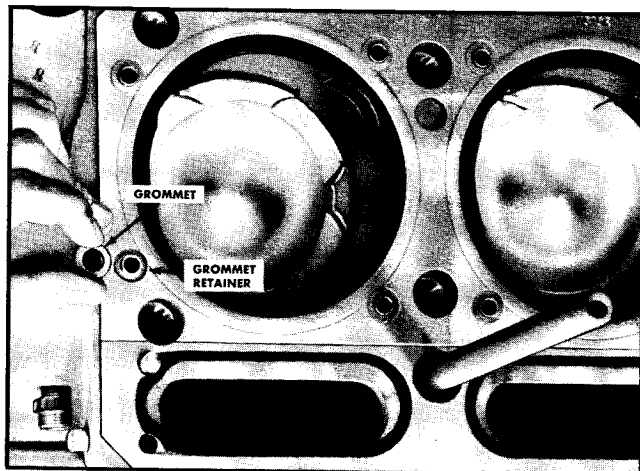

Fig. 4-23. Install grommet retainers and grommets
3. Place grommet retainers in water passages in block, small end up. Fig. 4-23.
4. Lay gasket on flat surface; press grommets into place by hand. Fig. 4-23.